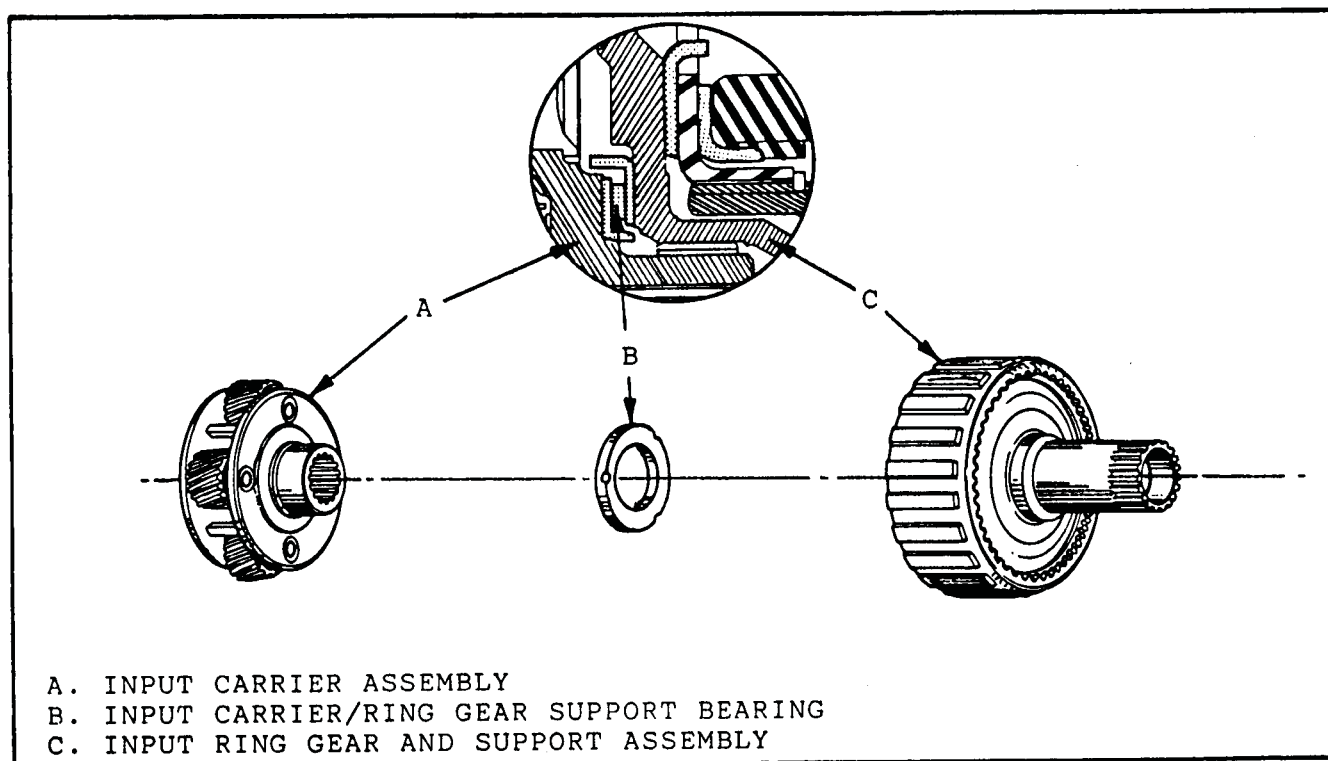

Figure 79
7. Install the thrust bearing into the input ring gear support with outer race toward the support as shown in Figure 79.